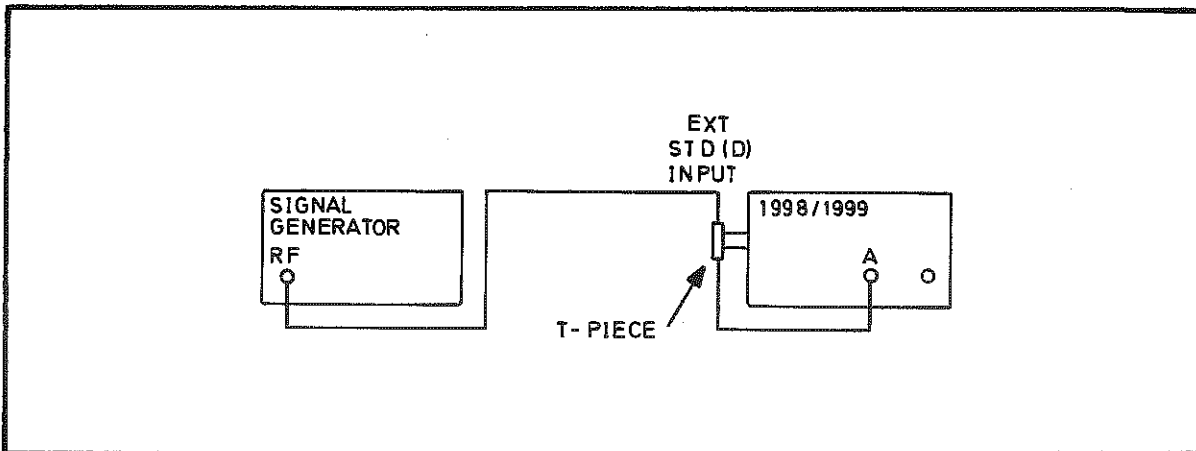

Fig 7.25 Connections for External Standard (D) Input PVP
- (1) Connect the test equipment as shown in Fig 7.25.
- (2) Select RATIO A/D, 50 Ω input impedance and 100 ms gate time.
- (3) Set the signal generator output to 10 MHz at a level of 10 mV.
- (4) Slowly increase the signal level until the 1998/1999 indicates 1.000000 ± 0.000001 .
- (5) Verify that the signal level is not more than 80 mV r.m.s.
- (6) Set the signal generator output to 10 kHz at a level of 10 mV.
- (7) Repeat steps (4) and (5) with the display reading 1.000 ± 0.001 .
- (8) Disconnect the test equipment.